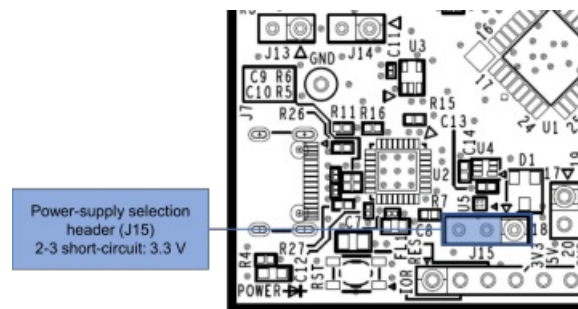

Figure 5-6 Setting of the Header to Select a 3.3-V Power Supply (Top Side)
- 2-3 of J15 being short-circuit selects a 3.3-V power supply (Figure 5-6).